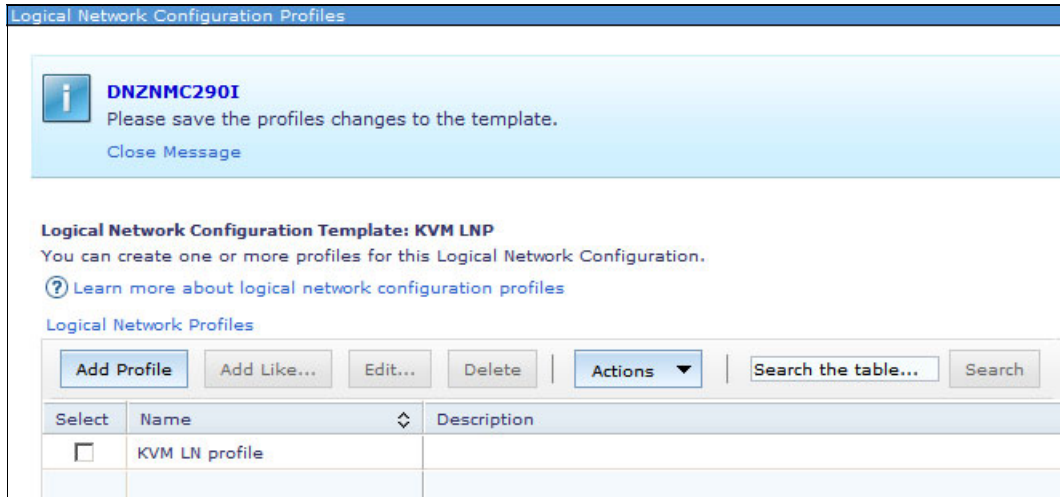

Figure 9-75 Saving configuration template
11. The newly created profile is displayed in the Template Configuration window, as shown in Figure 9-75 on page 358. If you need to configure more logical network profiles in the configuration template, repeat steps 4 - 10. Click **Save Template**.